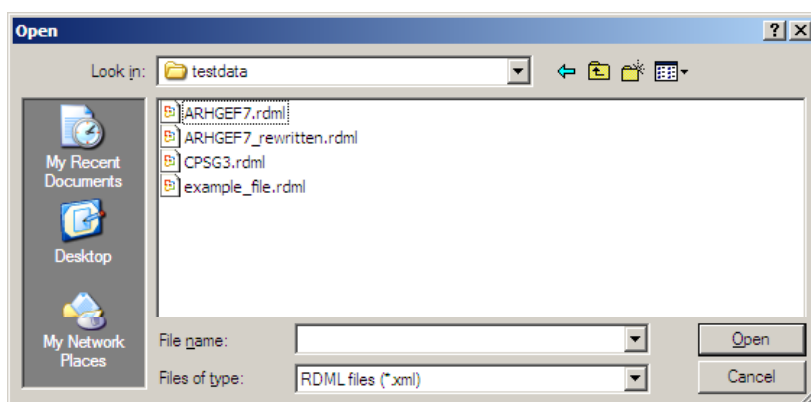

Figure 9: Open dialog that will be displayed to look-up your RDML file. Browse the directory tree, choose the RDML file and press Open.
3. Press **Open RDML file** and choose the RDML file in the *file browser* at the top of the dialog (Fig. 9).